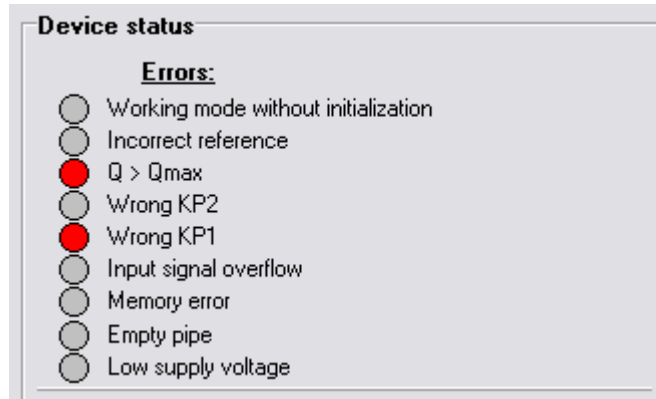

Fig.20. Displaying errors
4.1. Alarm (error) situations (ER) are displayed in **Device status** panel (**Measures** tab), see Fig.20.